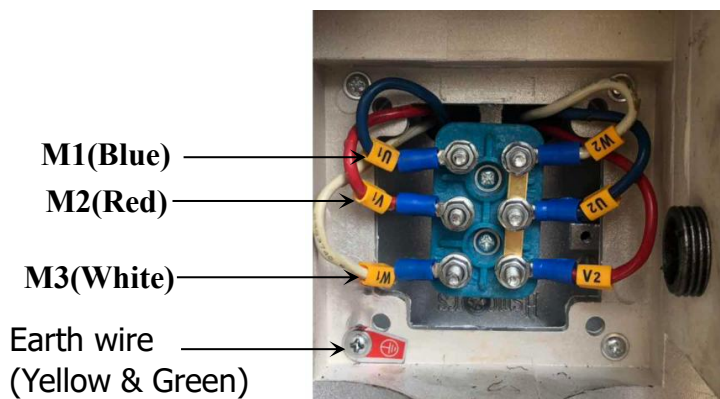

Fig.29
2.2 Wire connection diagram of Three phase hydraulic motor (See Fig.29).